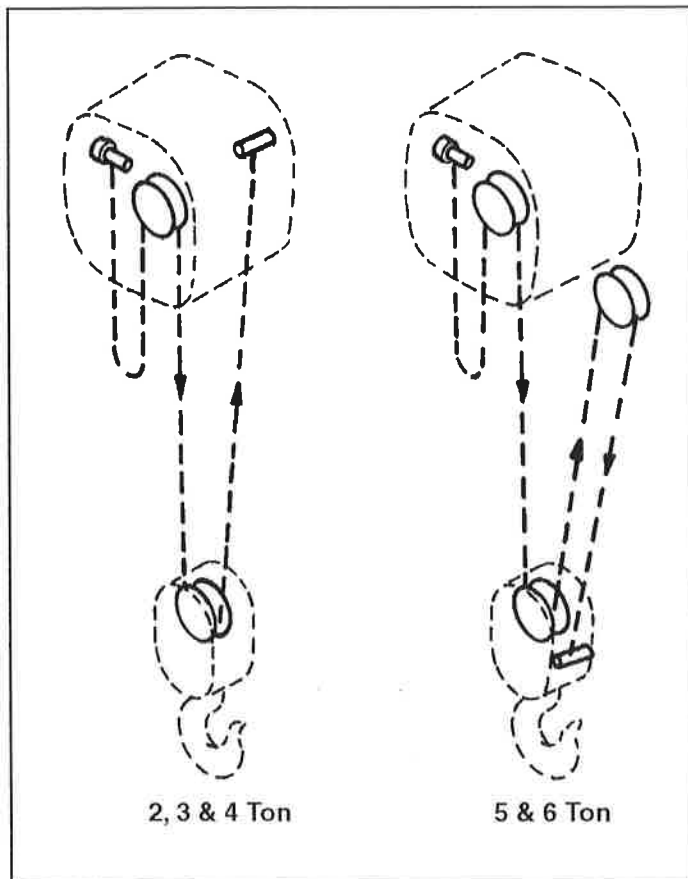

Figure 7-9. Reeving for 2 thru 6 Ton Models
c. On the two load chain 2 and 3 thru 6 ton models, reeve the hoist in accordance with Figure 7-9. Make sure there is no twist in the chain.